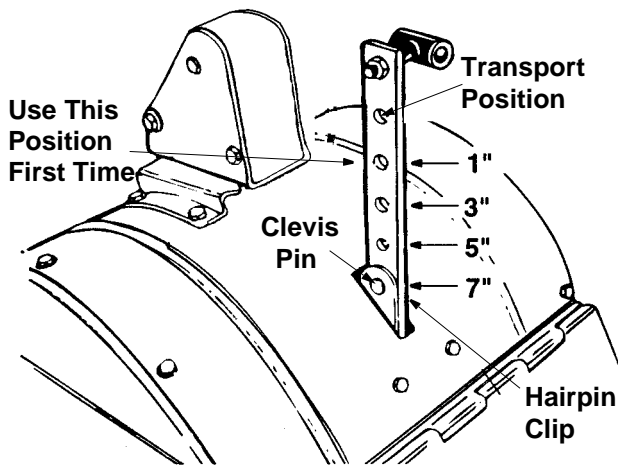
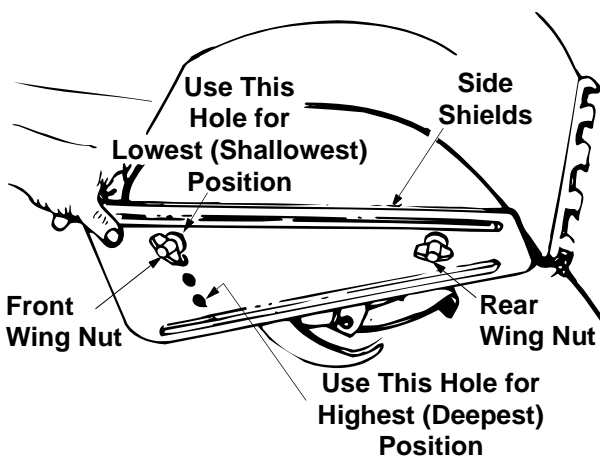

Figure 9
Figure 10
**WARNING:** When operating the tiller for the first time, use the depth stake setting that gives 1 inch of tilling depth (second hole from the top). See Figure 9.
Tilling depth is controlled by the depth stake which can be adjusted to five different settings. See Figure 9. Adjust the side shields as shown in Figure 10, as you adjust the depth stake. Be certain spark plug wire is disconnected and grounded against the engine.
1. When using the tiller for the first time, use the second adjustment hole from the top (1" of tilling depth). See Figure 9.
5. To adjust the depth stake, remove the clevis pin and hairpin clip. See Figure 9. Move the depth stake to the desired setting.
6. To adjust the side shields, remove the front wing nut and loosen the rear wing nut. See Figure 10. Place side shield in position desired. Replace wing nuts and tighten securely.